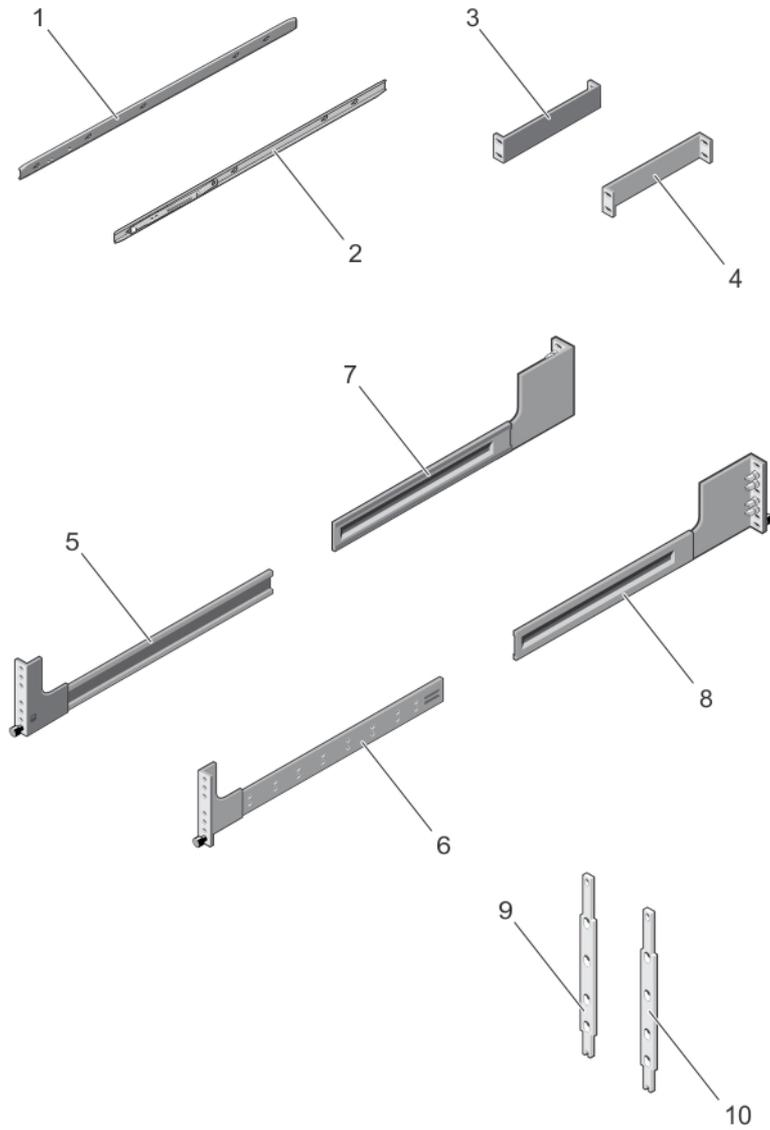

Figure 10. Dell ReadyRails for 2- and 4-Post Racks
- Chassis rails that fit on the left and right sides of a C9010 chassis (items 1 and 2 in Figure 10)
- Left and right rail brackets that fit into the front rails on 2-post racks (items 3 and 4 in Figure 10)
- Front rails for the left and right posts of 2- and 4-post racks (items 5 and 6 in Figure 10)
- Rear rails that fit into the left and right front rails on 4-post racks (items 7 and 8 in Figure 10)
- Two spacers that allow you to secure the chassis flanges flush on the front rack posts (items 9 and 10 in Figure 10)
- 1 Locate the front rack rails in the Dell ReadyRails kit (items 5 and 6 in Figure 10).
- For a 2-post rack, take out the left and right rail brackets (items 3 and 4 in Figure 10) and slide them into the front rails.
- For a 4-post rack, take out the left and right rear rails (items 7 and 8 in Figure 10) and slide them into the front rails. (The front and rear parts of a rail may arrive pre-assembled.)